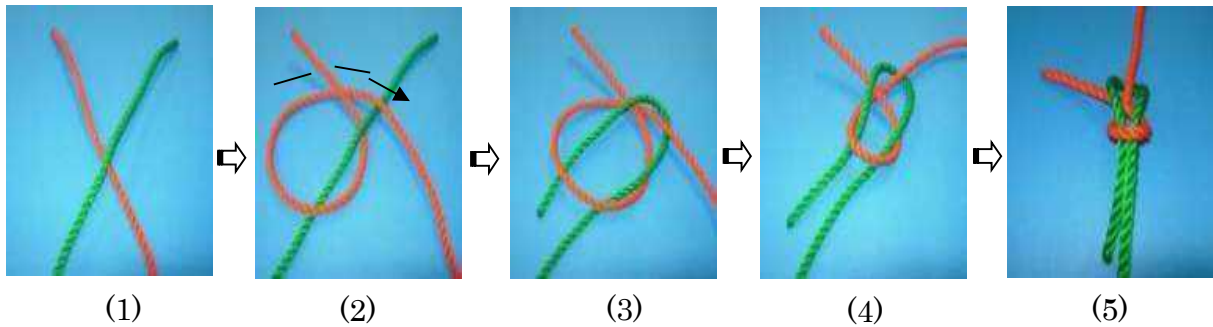

Figure 4: Common tying method
The simplest and most common tying method is shown in Fig. 4. It results in an Englishman's knot, which is the same as a sheet bend for a rope. In the case of threads that tend to slip, a double knot with the ring in (2) of Fig. 4 formed twice is used.